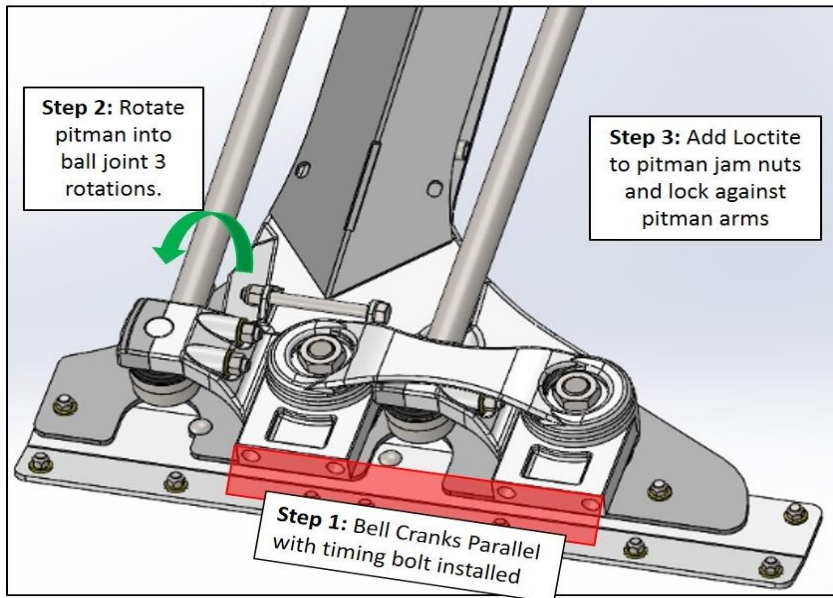

Figure 2
- Adjust timing on pitman arms so bell cranks are parallel with timing bolt installed on flywheels. Figure 2